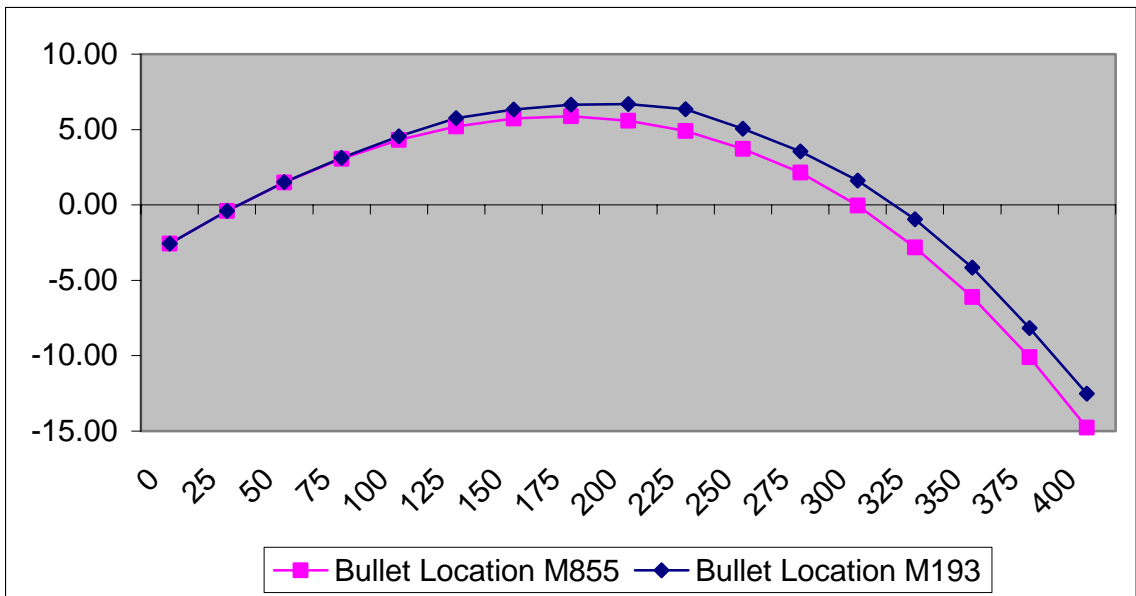

Figure 5-35. M855 zeroed at 25 meters; M193 re-zeroed at 25 meters.
*(a) When zeroing M855 and M193 at 25 meters, the difference in the ammunition becomes apparent as shown in Table 5-6 and Figure 5-35. If firing M193 ammunition from an M16A2 rifle, the rifle should be zeroed with M193 ammunition.